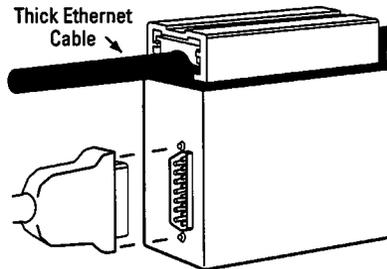

**Figure 16. Attaching the AUI Drop Cable**
1. Starting with the first computer to be connected, attach a drop-cable to the AUI port on the Ethernet adapter (Figure 16).